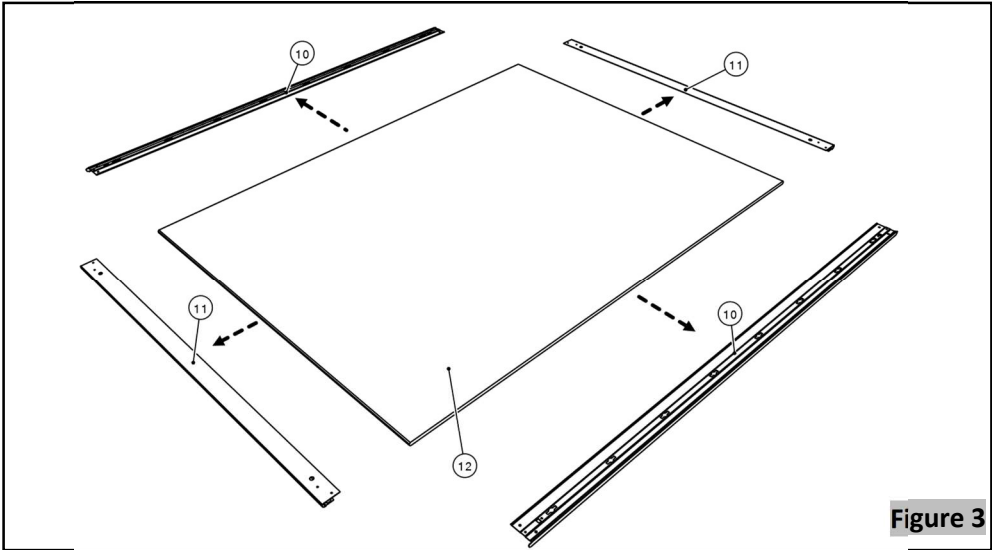

Figure 3
- 10.** Pull out the vertical tile steel frames **10** of the honeycomb board **12**, **Figure 3** and place them in the recycle bin containing steel materials.